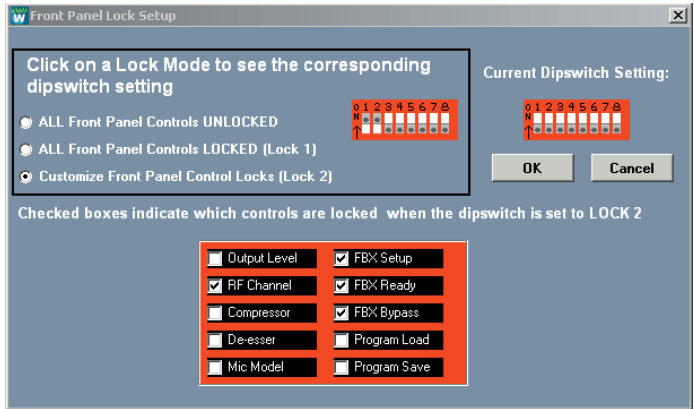

Fig. 13g - Front Panel Lock Setup
- **Simultaneous multiple channel/system monitoring.** The Remote Software “All Channel View” (figure 13g) shows all important status conditions for up to 50 transmission channels. Color-coded warnings and alerts draw attention to potential problems.
You can customize the mix of functions that will be locked when choosing Front Panel Lock 2 (figure 13g).